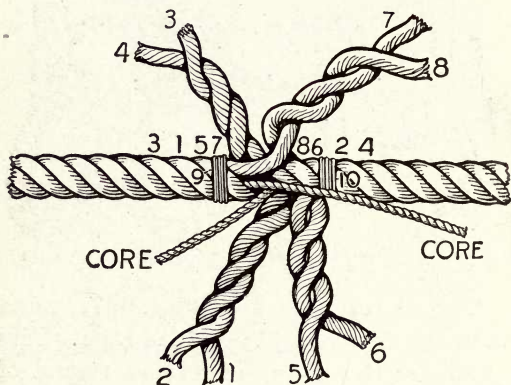

Figure 10
1. Tie a piece of twine (9 and 10, Fig. 10) around the rope to be spliced, about six (6) feet from each end. Then unlay the strands of each end back to the twine.
3. The twine (10) is now cut, and the strand (8) unlaid and strand 7 carefully laid in its place for a distance of four and a half feet from the junction.